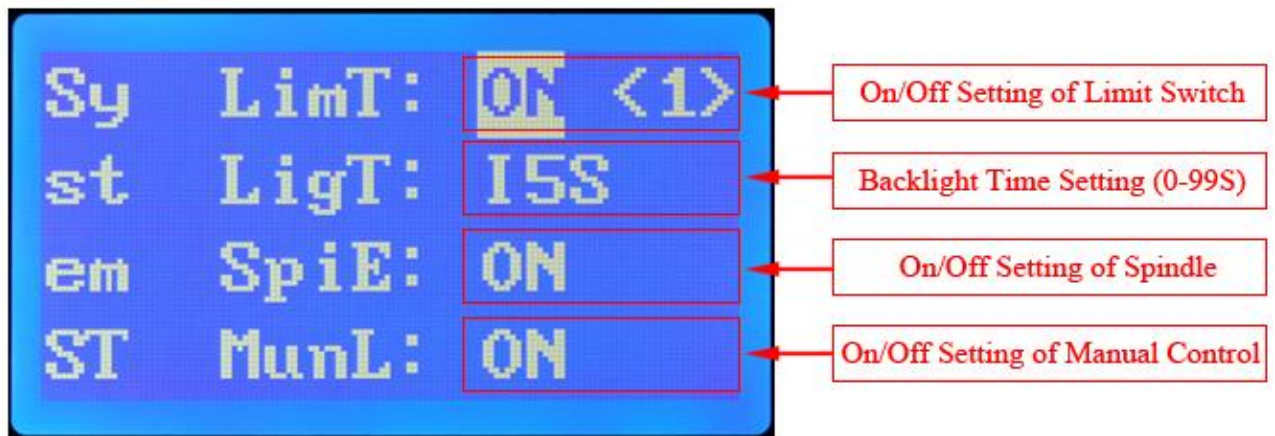

Figure 12: Main Functions Setting
- After finishing “Cutter-presetting/Tool-Setting”, please press the “ST” key on control pad again to skip to the “Main Function Setting” in “Figure 12”.